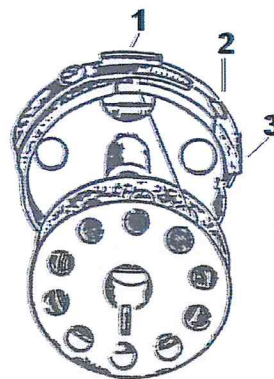

Figure 9
4. Continue the threading sequence by inserting the thread into the slit under the spring tensioner, Fig. 9 (see arrows). Follow steps 1, 2, & 3.